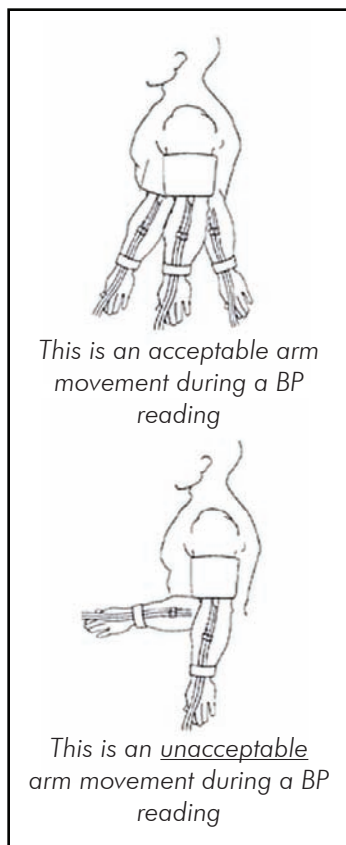

Figure 10: Limitations to arm movement during stress test
- Help your patient relax his/her arm when a measurement is taken (see Figure 10).